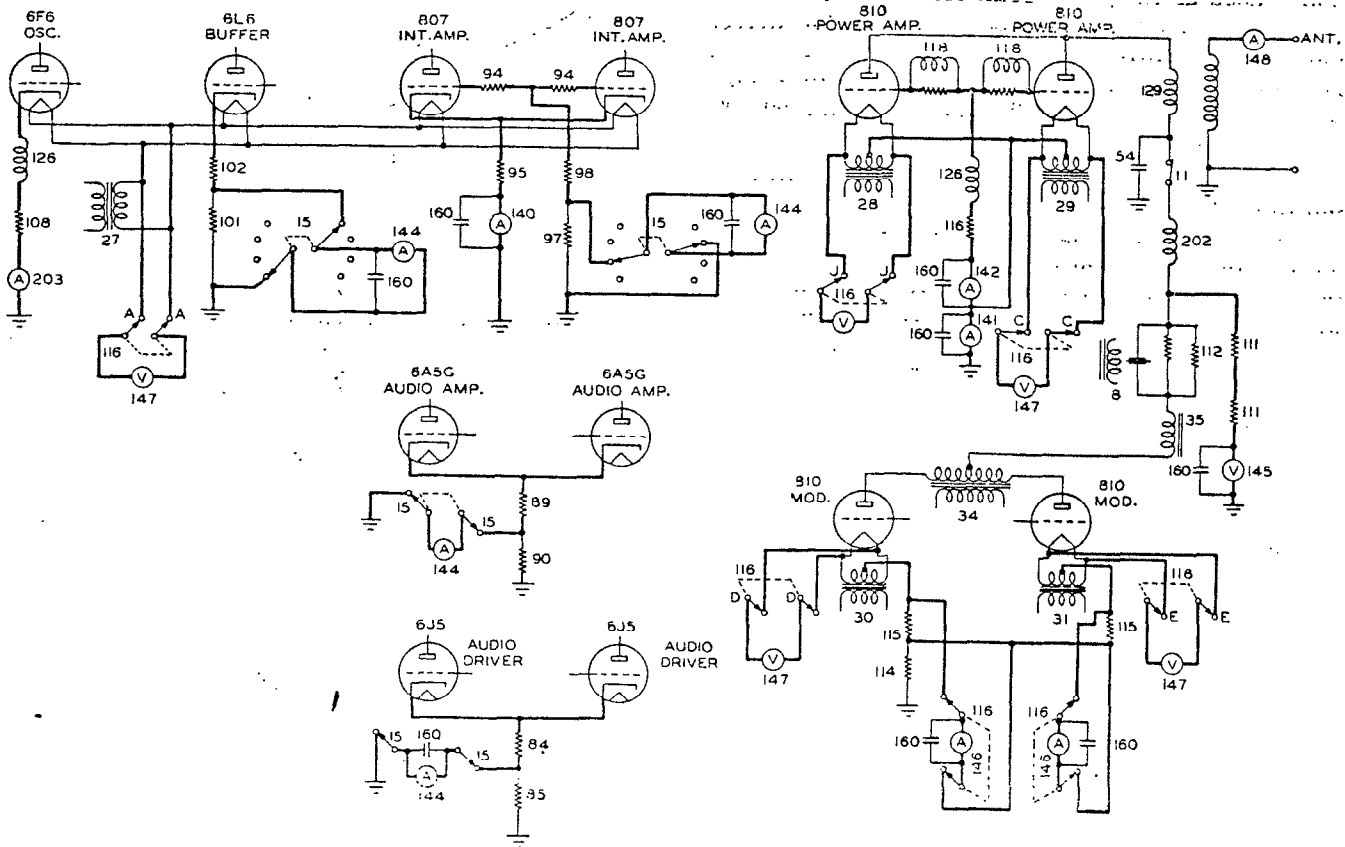

Figure 2-13. Metering Circuits
g. METERING CIRCUITS. (Refer to figure 2-13.)